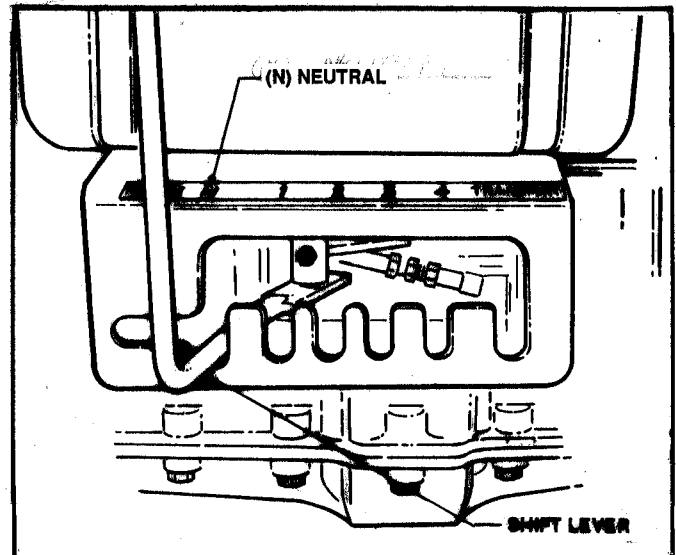

FIGURE 7
3. Place transmission SHIFT LEVER in "NEUTRAL" (N) position. See Figure 7.